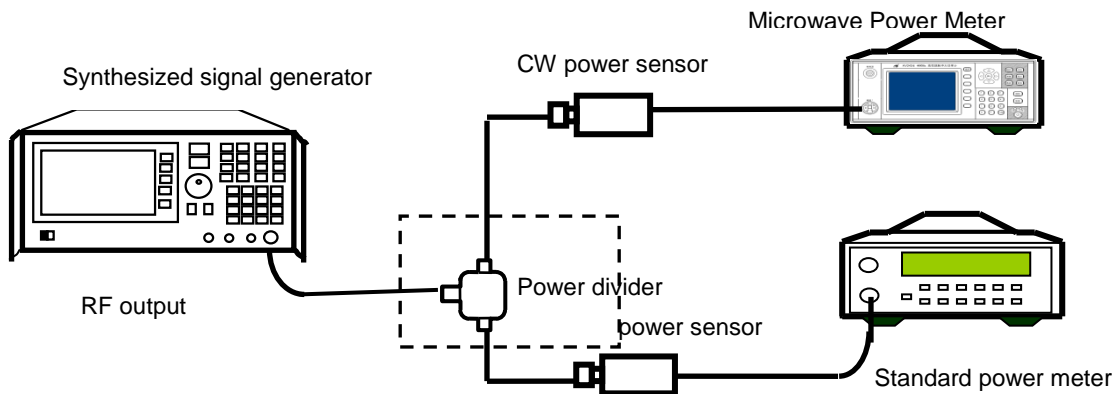

Fig. 8.5 Test of Power Range of CW Power Sensor
- 1) Connect the standard power meter to a power sensor with a power measurement range of $-70 \sim +20$ dBm and the microwave power meter to be tested to a 71710X power sensor to be tested, warm up the device for at least 30 min, perform automatic calibration, connect the device as shown in Fig. 8.5.
As shown in Fig. 8.5.
- 1) Power on the instrument, warm it up for at least 30 min, calibrate the microwave power meter connected to a 71710A CW power sensor and the standard power meter respectively, and then connect the device as shown in Fig. 8.5.